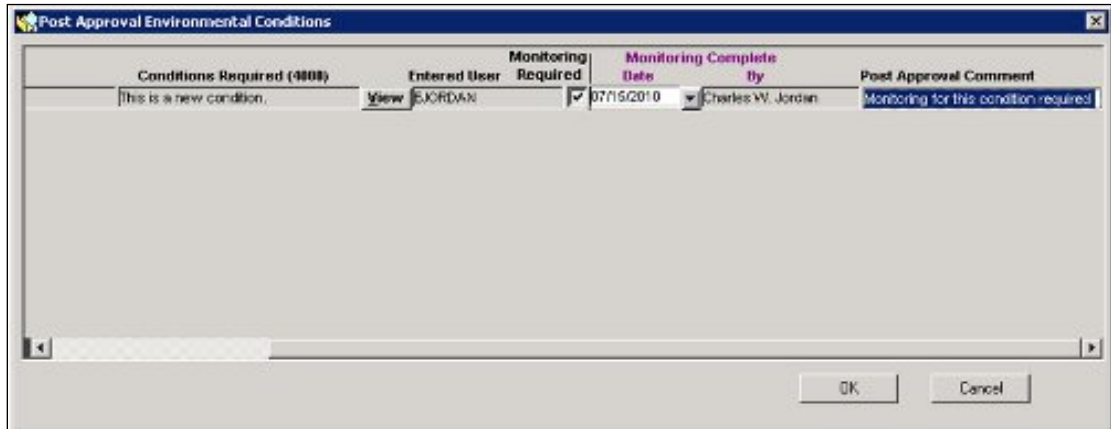

Figure 11-19: Monitoring Complete Comments Added
- f. The comments you entered are displayed in the Environment Conditions dialog box (Figure 11-19). Click the OK button.